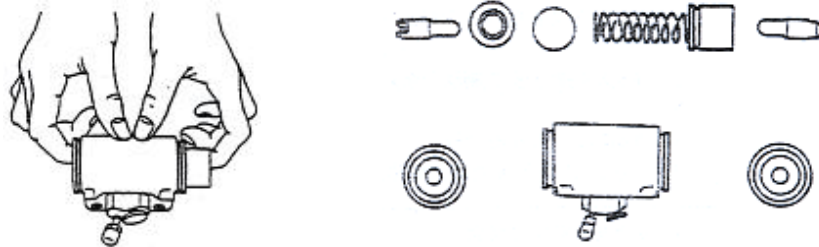

Figure 2-17
(7) Disassemble the brake cylinder: Remove the dust-proof ring. Press on one end of the piston to push out the other end and then press down the headed out end of piston with fingers. See figure 2-17